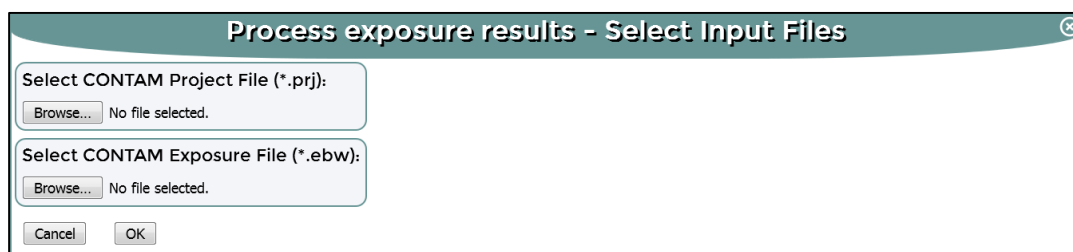

Figure 16. Selecting CONTAM project (.prj) and exposure box-whisker file (.ebw) files
2. Select both a CONTAM project (.prj) file and an exposure box-whisker (.ebw) file (Figure 16).